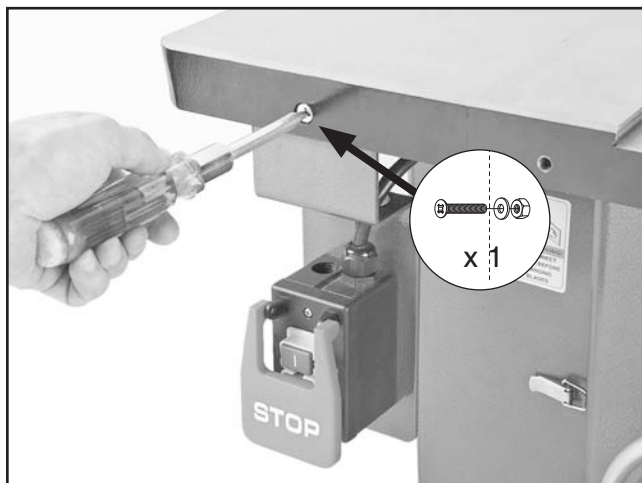

Figure 16. Installing switch.
10. Attach the switch to the extension wing with (1) $\frac{5}{16}$ "-18 x $\frac{3}{4}$ " flat head screw in front, as shown in **Figure 16**, and (1) $\frac{5}{16}$ " flat washer and (1) $\frac{5}{16}$ " hex nut in back.